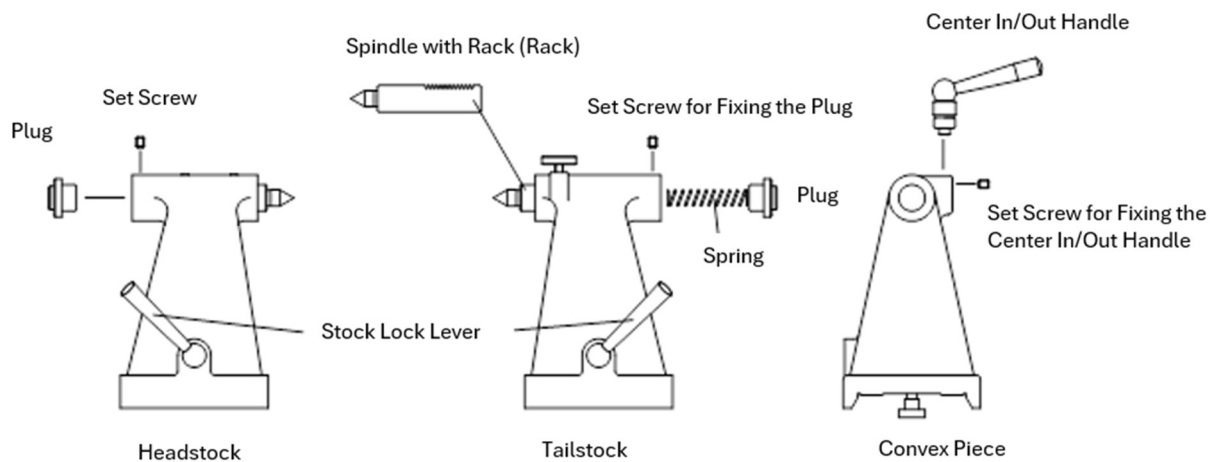

Figure 4. Adjustment of the Convex Piece and the Center In/Out Handle
- ① As shown in Figure 4, loosen the set screw for fixing the plug and remove the plug. Since a spring is inserted, take care not to let the plug fly out.
- ② Loosen the set screw for fixing the center in/out handle, lift the handle, and remove it.
- ③ Rotate the center in/out handle to the desired position and insert it so that it meshes with the rack.
- ④ Move the center in/out handle back and forth and check its position again.
- ⑤ After confirmation, install the set screw for fixing the center in/out handle.
- ⑥ Insert the spring, press in the plug, and install the set screw for fixing the plug.
- ⑦ If readjustment is required, repeat steps 1–6.